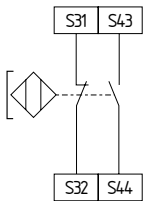

Fig. 14
8.3.3 Sensor configuration - Dual-channel control of magnetic safety switches to IEC 60947-5-3 (Fig. 14)